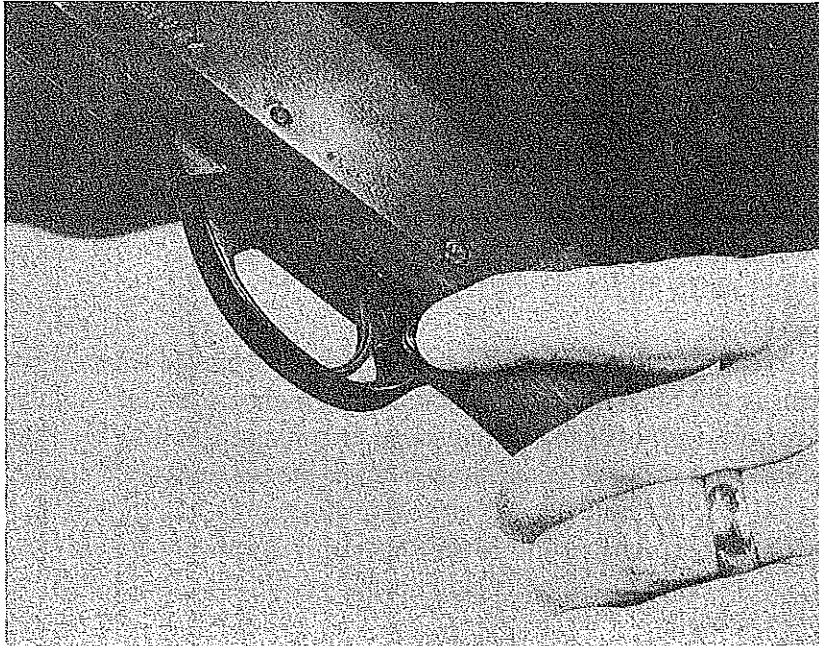

FIGURE 55
- a. The safety should be engaged. (Figure 55)
- b. Push the safety button to the right. (Figure 55) Activate the slide release lever (Figure 59) while placing the left hand on the wood of the fore-end, with the little finger of the left hand at the back of the wooden fore-end and in contact with the magazine tube. (Figure 65) The other three fingers are on the wood of the fore-end and the left thumb is over the top of the barrel for control.